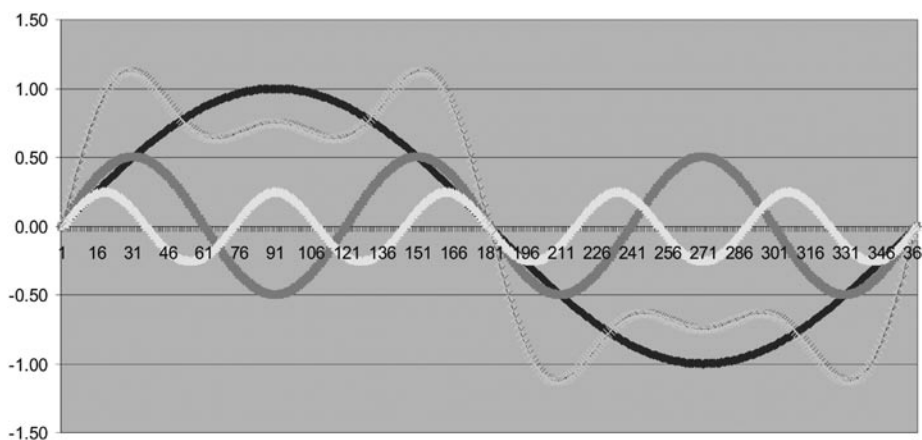

FIGURE 11.16
- o. Click on Insert in the toolbar, then Chart. Excel should open a new window. Now click on Chart type: Line, then Finish. Excel should open a new window with a chart like that shown in Figure 11.16. The dark blue line is the fundamental, the magenta line is the third harmonic, the